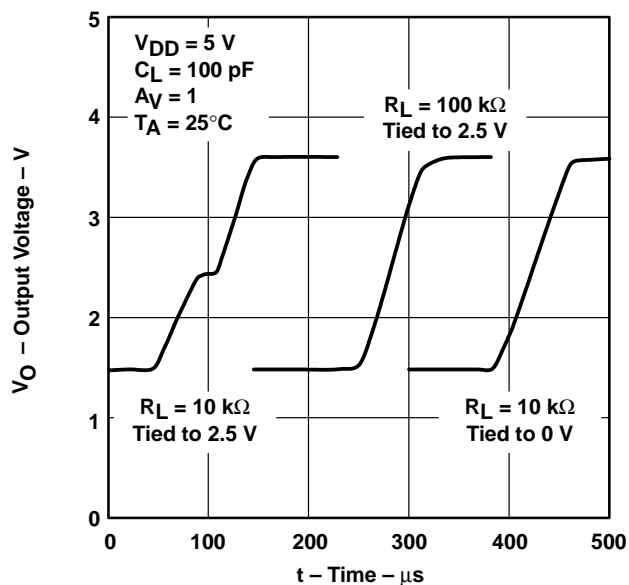

Figure 38
- Where the load is referenced. When the load is referenced to either rail, this condition does not occur. The distortion occurs only when the output signal swings through the point where the load is referenced. Figure 38 illustrates two 10-k Ω load conditions. The first load condition shows the distortion seen for a 10-k Ω load tied to 2.5 V. The third load condition shows no distortion for a 10-k Ω load tied to 0 V.
- Load resistance. As the load resistance increases, the distortion seen on the output decreases. Figure 38 illustrates the difference seen on the output for a 10-k Ω load and a 100-k Ω load with both tied to 2.5 V.